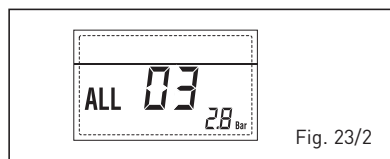

Fig. 23/2
**- ANOMALIA SONTA SANITÁRIO "ALL 04" (fig. 23/3)**